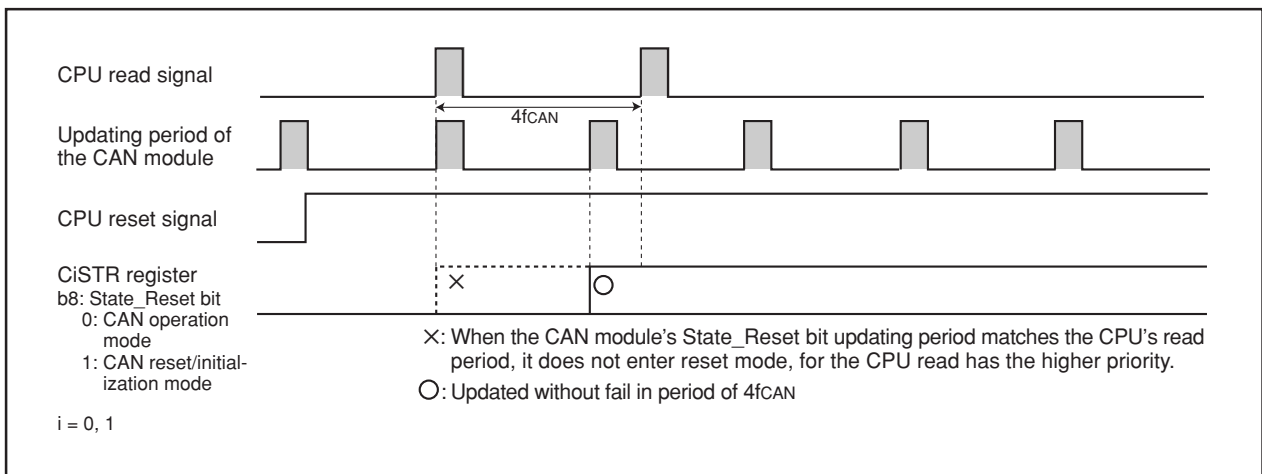

Figure 1.11.3 When Polling Period of CPU is 3fCAN or Longer
- (2) When the CPU polls the CiSTR register, the polling period must be  $3f_{CAN}$  or longer. (Refer to Figure 1.11.3.)